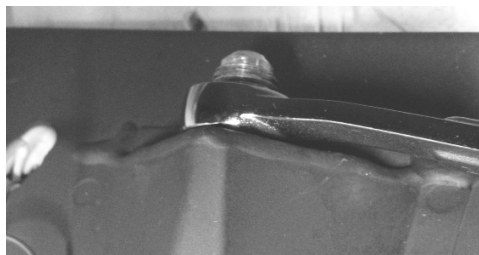

Figure 6.
Step 7: Using a 15mm wrench, remove the main burner orifice from the main burner. See Figure 6.